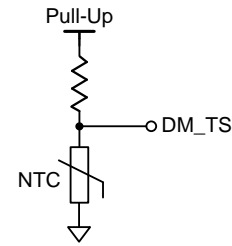

Figure 10. TS Function Connection
The device integrates temperature sense (TS) function to diagnose the external temperature with NTC thermistor. The voltage on NTC thermistor varies with different temperature. Figure 10 shows the DM\_TS pin connection for the TS function. The device diagnoses TS\_OTP from the DM\_TS pin ADC value if DM\_TS\_CFG(0x005F[6]) is set to 1. If the external sensing voltage is lower than TS\_OTP threshold, the device will stop charging and reset CHG\_EN bit to disable. The temperature information is derived from the DM\_TS pin ADC value. For using this function, enabling DM ADC conversion is necessary.